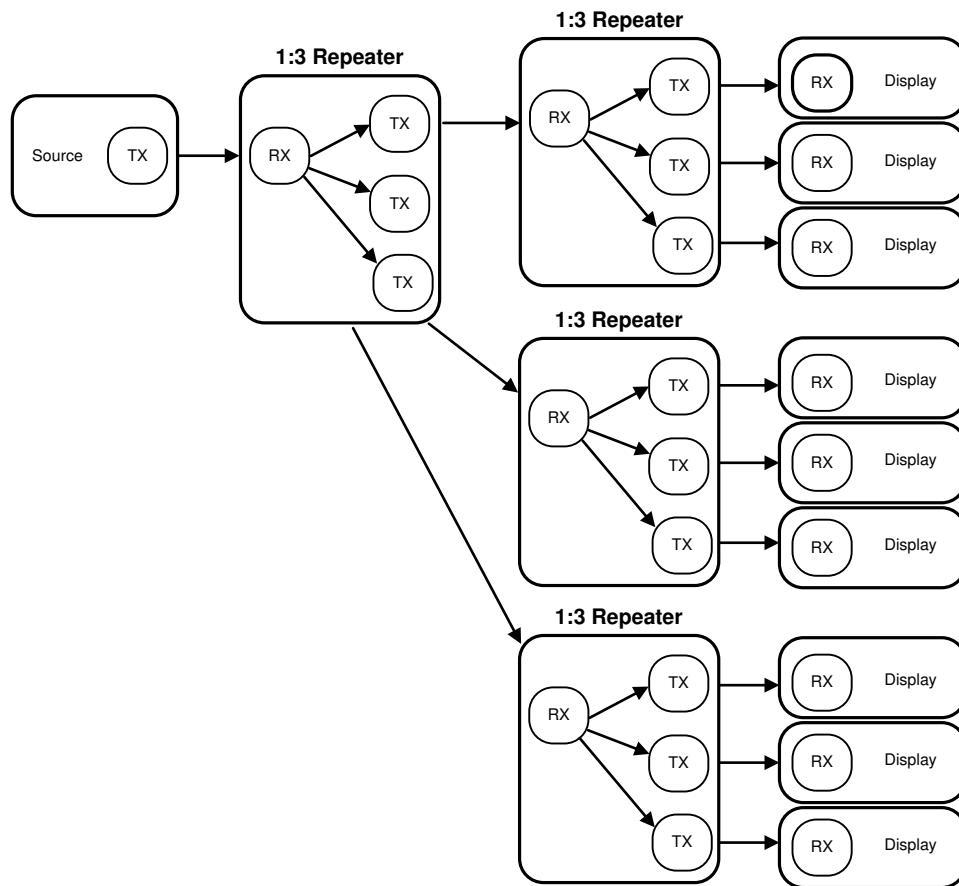

Figure 7-9. Maximum Repeater Application
In the repeater application, this document refers to the DS90UB947-Q1 serializer or as the transmitter (TX), and refers to the DS90UB948-Q1 as the Receiver (RX). Figure 7-9 shows the maximum configuration supported for repeater implementations. Two levels of repeaters are supported with a maximum of three transmitters per receiver.